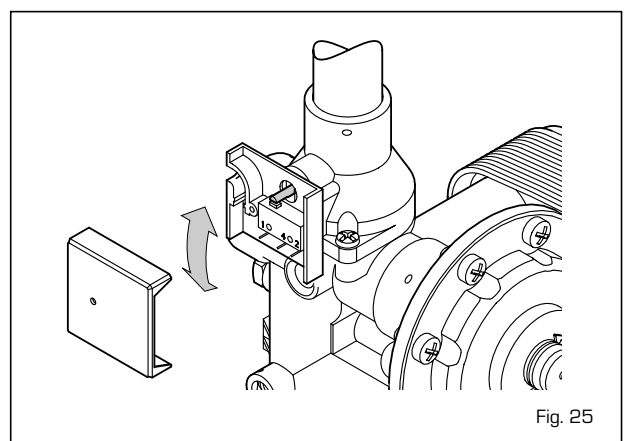

Fig. 25
- Ensure the spindle is free to move (see fig. 25).
## 5.8 CLEANING THE C.H. WATER FILTER (fig. 25/a)